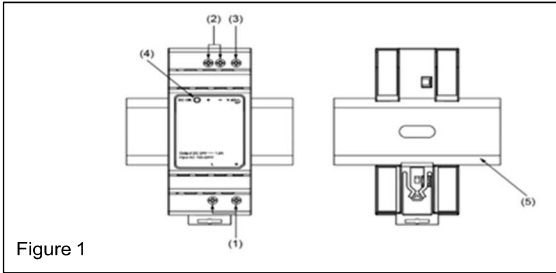

Figure 1
2. Device description (Fig. 1)
5.1. Input connection (Fig. 1 (1), Fig. 5)
Use L and N connections of input terminal connector (see Fig. 1 (1)) to establish the 100-240 VAC connection. The unit is protected with internal fuse (not replaceable) at L pin and it has been tested and approved on 20A (UL) and 16A (IEC) branch circuits without additional protection device.
5.2. Output connection (Fig. 1 (2))
Use the "+" and "-" screw connections to establish the 24 VDC connection. The output provides 24 VDC. The green LED DC OK displays correct function of the output (Fig. 1 (3)). The device has a short circuit and overload protection and an over voltage protection limited to < 36 VDC.